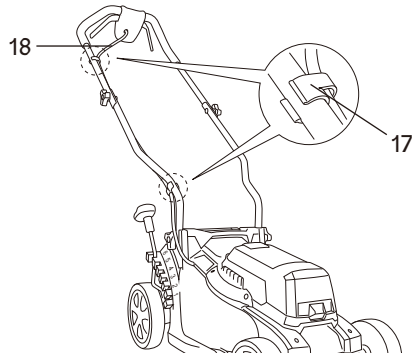

FIG.5
4. Secure the control cord (18) with two wire clips (17) (Fig. 5).